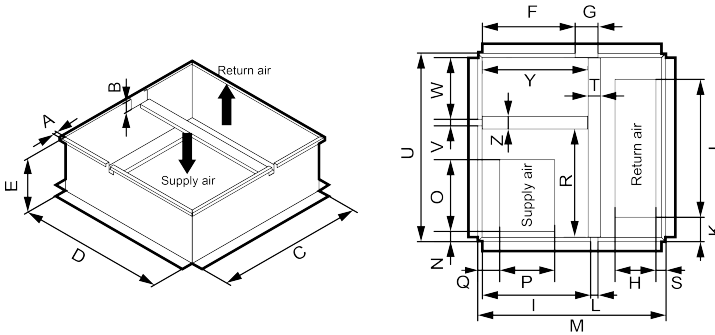

Fig.7 GK-H02TC/NaA-T(U), GK-H03TC/NaA-T(U),
- ① Install curb.
**NOTE:** The manufacturer does not supply roof curb. Please refer to Figure 7 for roof curb reference dimensions.